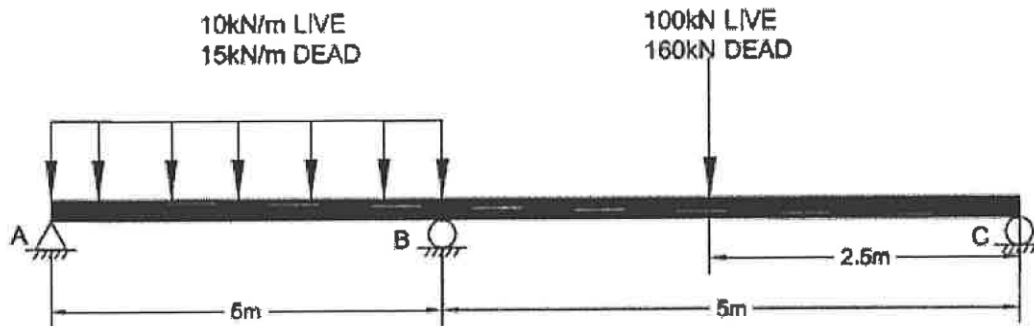
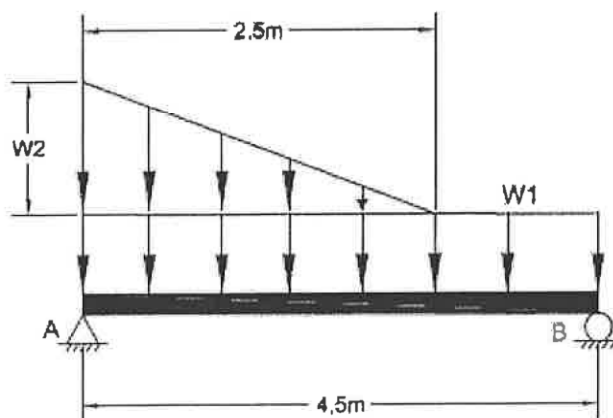

FIGURE 1
FIGURE 3
**Part A (Do TWO (2) of three (3) questions)**
- A1. For the beam shown in Figure 1 determine the most appropriate wide flange section, assume that the beam is only laterally restrained at the support locations
- A3. For the beam in Figure 1 if the span between A and B is to be of a cross-section depth equal to approximately  $\frac{2}{3}$  of that used in B-C what two wide flange sections are most appropriate? Define the connection between the sections (welded) to ensure continuity.
**Part B (Do TWO (2) of three (3) questions)**
- B1. For the beam shown in Figure 3 design a reinforced concrete cross-section which can resist the moment and shear forces which develop. Assume a concrete strength of 25MPa.
- C1. Referring to Figure 3 design a prestressed beam section to resist the defined loading condition. Assume the beam is fabricated by a CSA certified shop, all strands at 1860MPa low relaxation type and the concrete is 40MPa. Define the long-term deflection under dead load.